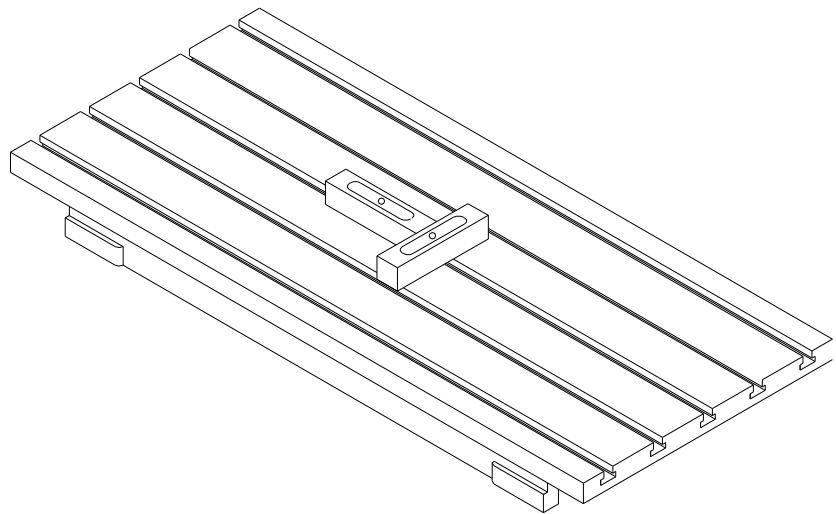

FIG. 4.6.1 LEVELING CHECK
- c. PLACE TWO PRECISION LEVEL VIAL NEAR THE CENTER SURFACE OF TABLE (FIG 4.6.1)